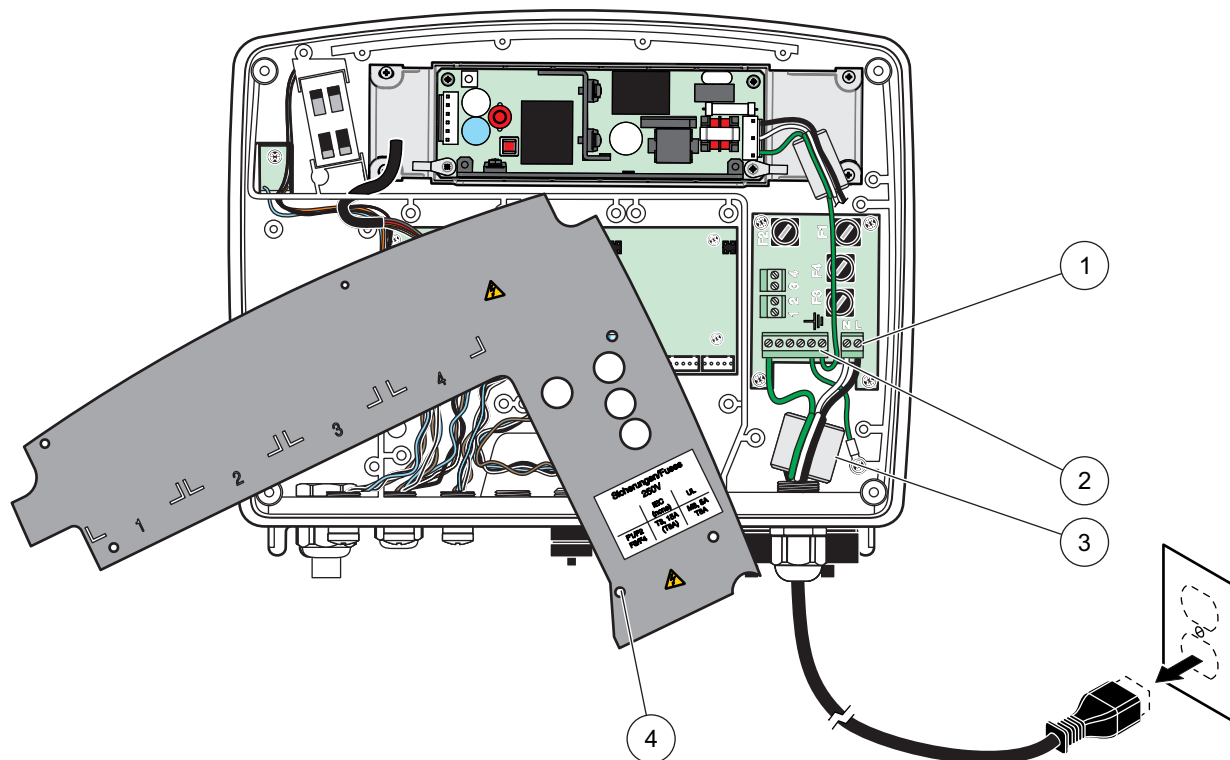
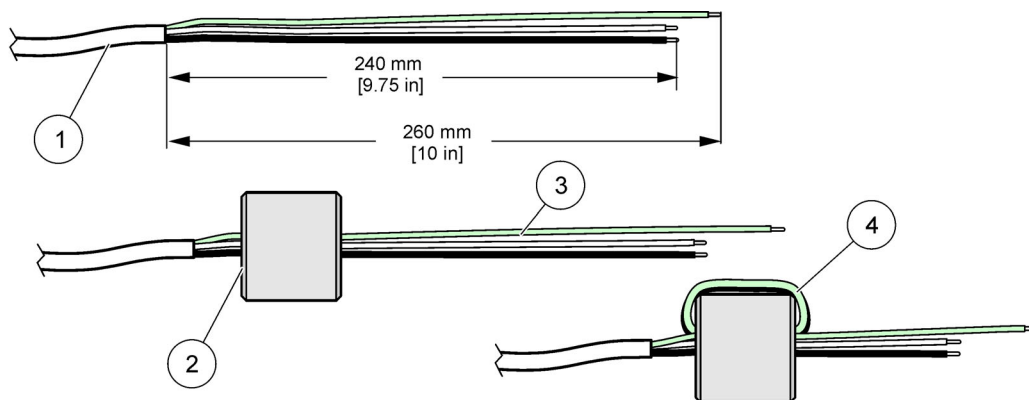
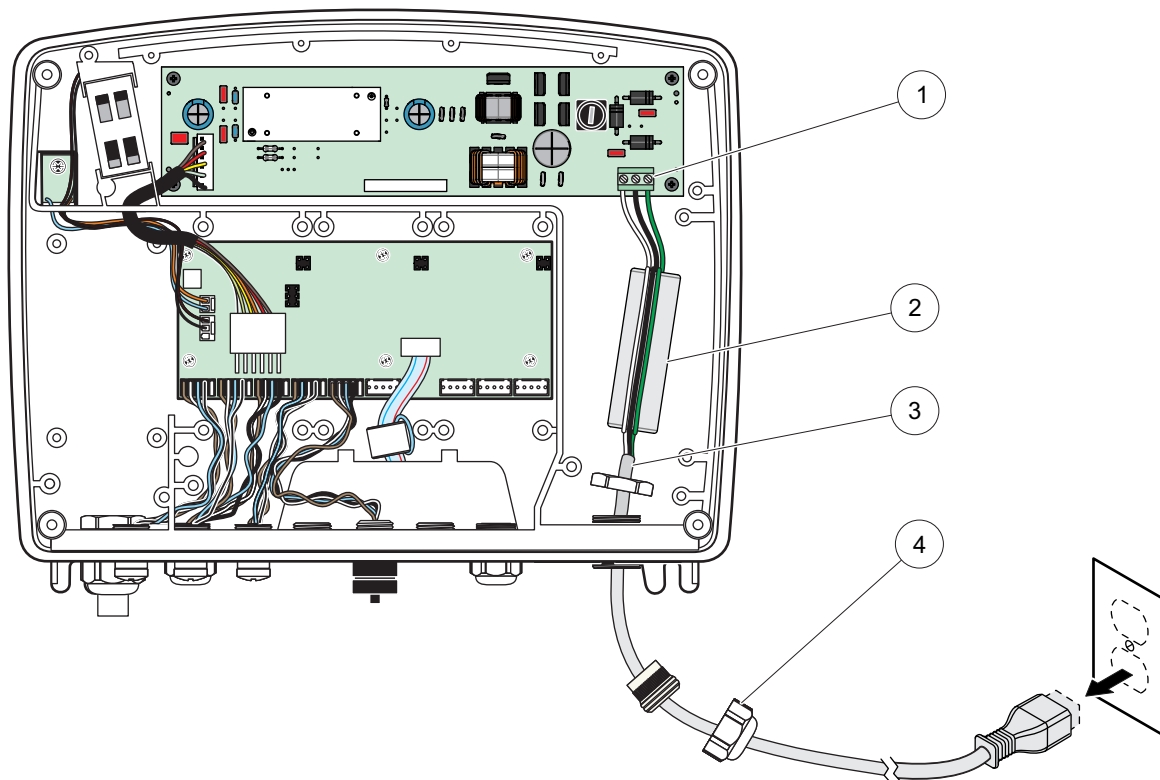

Figure 10 Wiring for power
Figure 12 Proper wire preparation and ferrite core wiring
Figure 16 Wiring for 24 VDC power
6. Strip the cable outer insulation 260 mm (10 in.) (Figure 12). Shorten all wires except the earth wire 20 mm (0.78 in.), so the earth cable is 20 mm (0.78 in.) longer than the
7. Feed the stripped power cable through the ferrite core twice (Figure 12) and wire into the terminal as shown in Table 1 and Figure 10. Tug gently after each insertion to make sure that the connection is secure.
6. Strip the cable outer insulation 260 mm (10 in.) (Figure 12). Shorten all wires except the earth wire 20 mm (0.78 in.), so the earth cable is 20 mm (0.78 in.) longer than the other cables.
7. Feed the stripped power cable through the ferrite core twice (Figure 12) and wire into the terminal as shown in Table 2 and Figure 16. Tug gently after each insertion to make sure that the connection is secure.